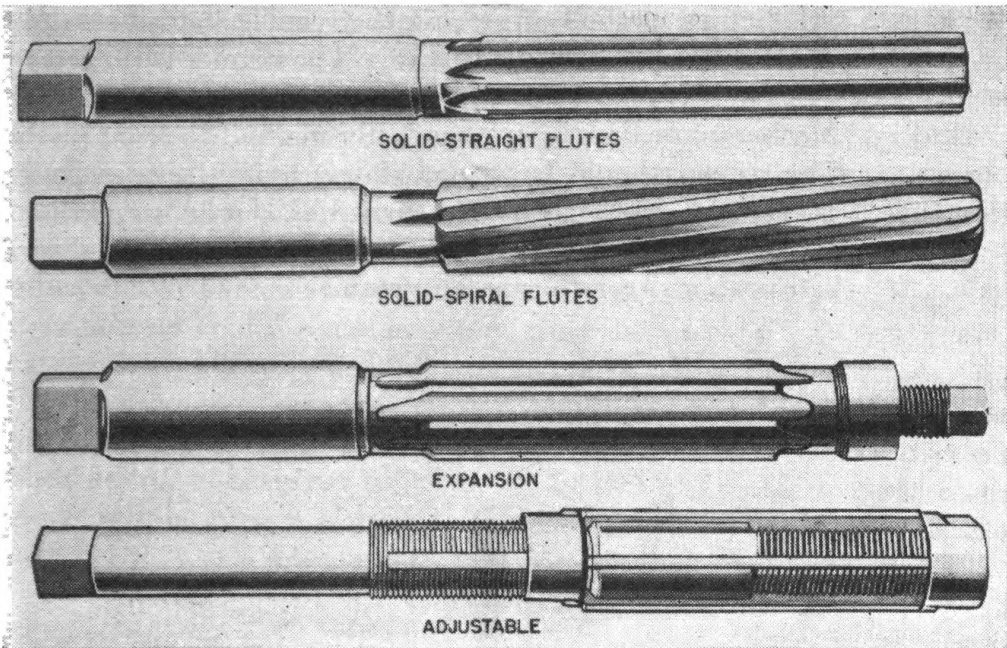

FIGURE 49.—Types of straight reamers.
14. Reamers and reaming.—*a. General.*—Hand reamers are tools for enlarging drilled holes to an exact size while finishing them round, straight, and smooth. The two types in general use are straight reamers and taper reamers, and both are very useful to the automotive mechanic whenever considerable accuracy of size, roundness, and smoothness of finish are required of a hole. Figure 49 shows the three types of straight reamers. The solid reamer is one solid piece of steel throughout. The expansion reamer is hollow and has longitudinal cuts in some of its flutes; by means of a tapered screw plug, its diameter can be expanded a few thousandths of an inch. Solid and expansion reamers are made with straight and spiral flutes. The cutting edges or lands between the flutes are usually regularly spaced. However, some solid reamers have irregularly spaced lands to avoid "chatter," which causes roughness in the finish of the work. The blades of the adjustable reamer are separate from the body and are fitted into grooves in the shank of the tool which is threaded. Adjusting nuts fit on these threads and, when turned back and forth, move